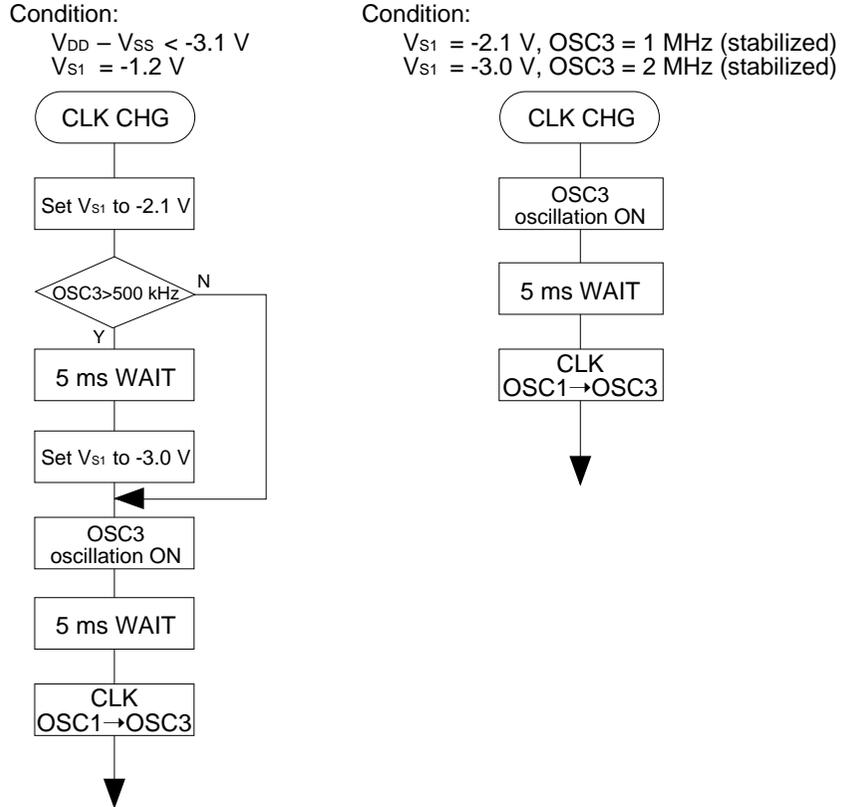

Fig. 6.2.2
- (4) When switching the CPU operating clock from OSC1 to OSC3, follow the flow chart shown in Figure 6.2.2 and then proceed with software processing.
- (5) Use separate instructions to switch the clock from OSC3 to OSC1 and turn the OSC3 oscillation OFF. Simultaneous processing with a single instruction may cause malfunction of the CPU.